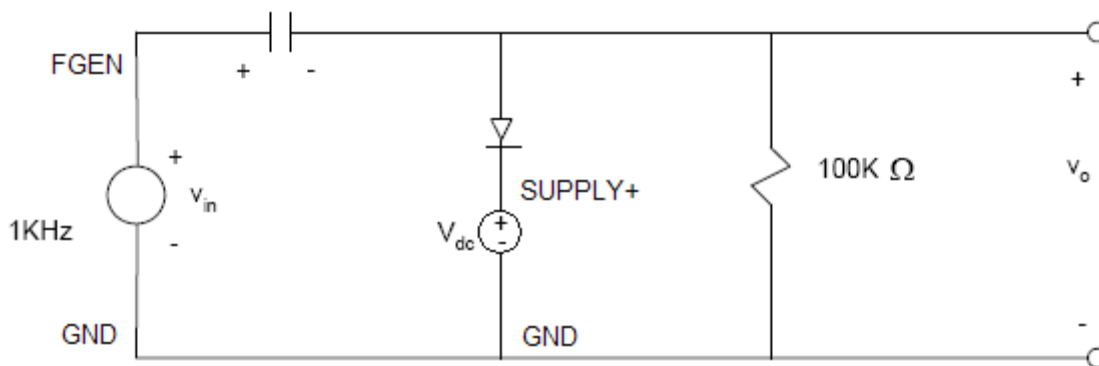

Figure 4.8: Clamping circuit
Build the circuit shown in Figure 4.8 and make an accurate sketch of the input and output waveforms for a  $8V_{p-p}$  sine wave input voltage for each of the following conditions. **Each condition should be relative to the circuit as shown in Figure 4.8.** Be sure to record the peak values of both waveforms on your sketch. A capacitor larger than  $22\ \mu F$  will work in this circuit. **Set the coupling of both oscilloscope channels to DC.**
- 4. Clamper — Build circuit (Figure 4.8)